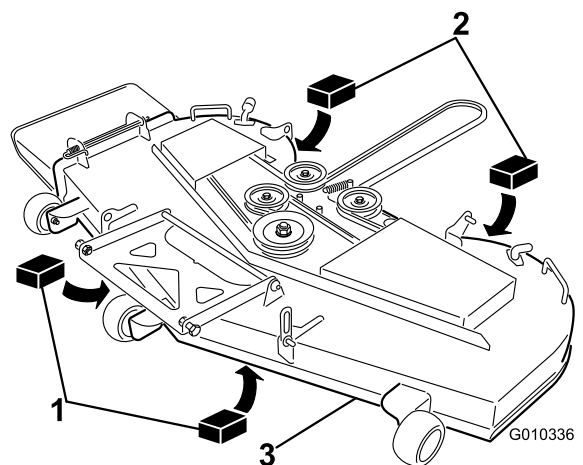

**Figure 59**
3. Carefully rotate the blades so they are facing front to rear (Figure 59).
4. Measure from the tip of the front blade to the flat surface and the tip of the rear blade to the flat surface (Figure 59). If the front blade tip is not 1/16-5/16 inch (1.6-7.9 mm) lower than the rear blade tip, continue to the Leveling the Mower Deck procedure.